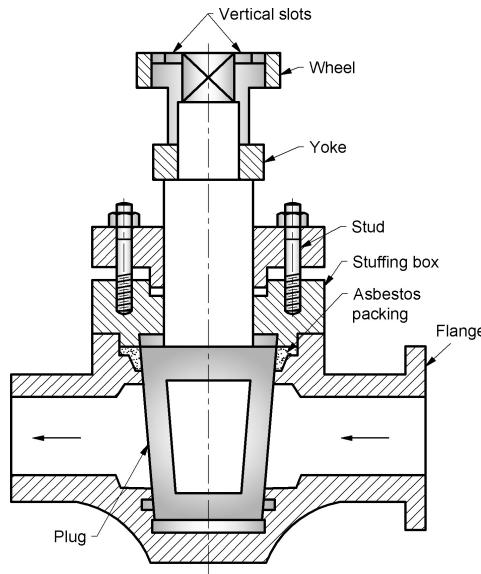

Fig. 2.5 Blow off cock
- (1) When the plug is rotated, the slot in the plug is brought in line with the passage of the casing. This causes the water to flow out of the boiler.
- (2) The flow of water through the boiler can be stopped by rotating the plug in such a way that solid portion of the plug comes in line with the passage of the casing as shown in Fig. 2.5.